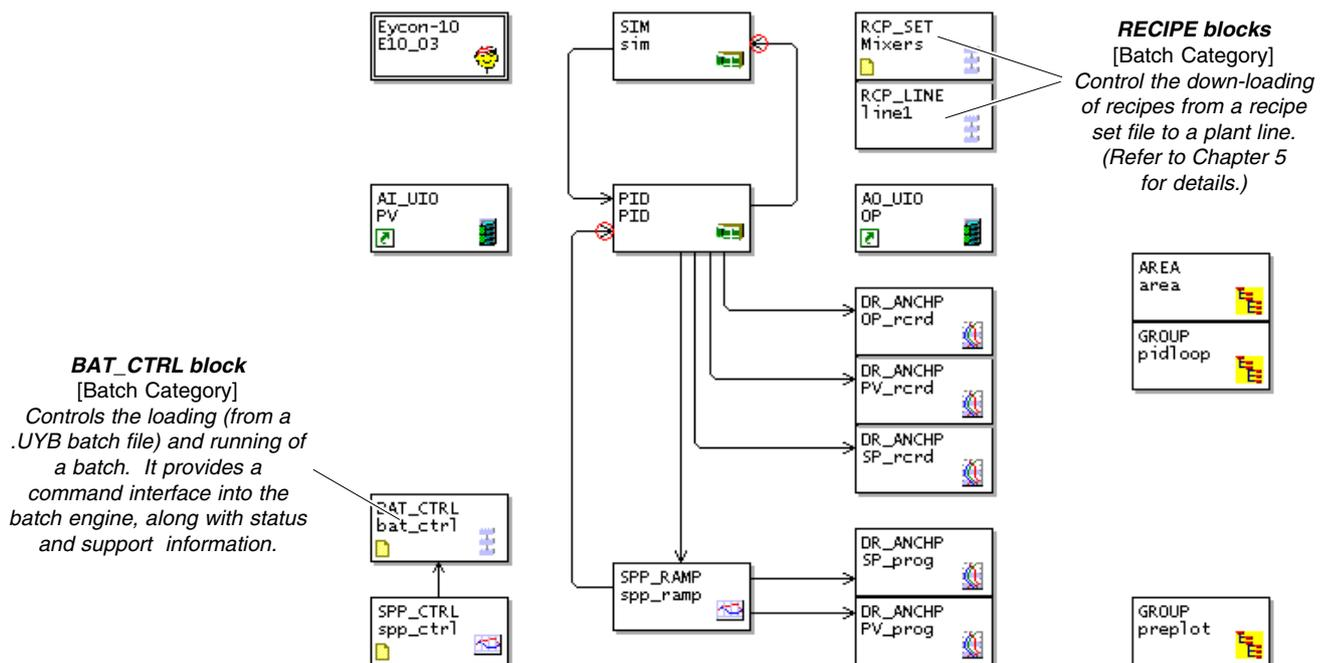

Figure 6-1 The program-driven batch strategy (simulated)
Figure 6-1 shows the (simulation) programmer strategy you created in Chapter 3, but with a Batch Control block and two recipe blocks, Recipe Set and Recipe Line, added to give the strategy some batch and recipe functionality.
- 1 In the LINTools Engineering Studio, locate the required blocks as shown in Figure 6-1. The quickest way to do this is to open up the existing simulated setpoint programmer strategy as your starting-point, by double-clicking its icon in Explorer view. Save the strategy under a new name, e.g. 'batch.dbf'.
<hr style="border-top: 1px dashed black;"/> <p>Note *(Block type) blockname.field.subfield format, referring to Figure 6-1. New wiring is listed below the dashed line.</p>
You must also edit the Name fields in all blocks, according to Figure 6-1 if you wish.
*Note *(Block type) blockname.field.subfield format, referring to Figure 6-1*